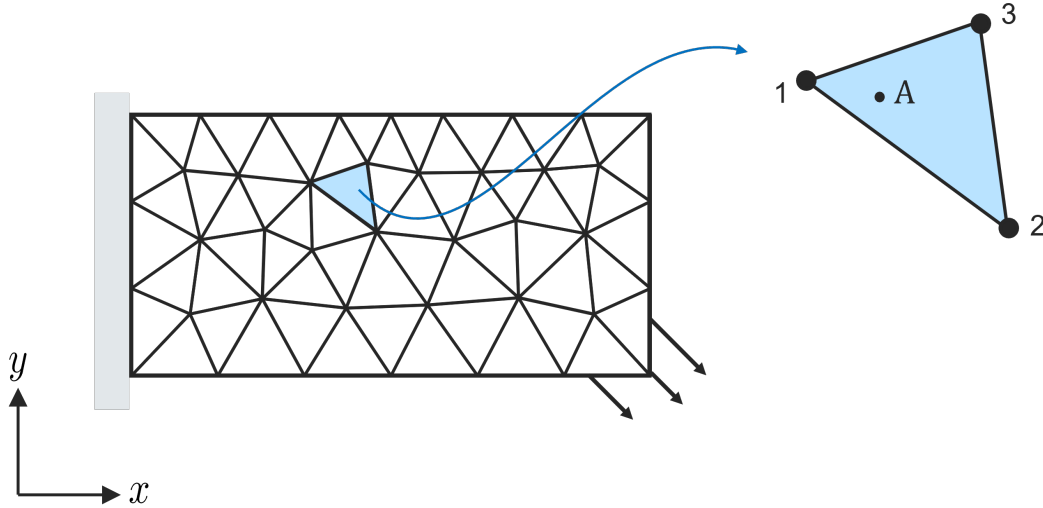

Figure 3: Illustration of component with discretization and the considered element in Problem 3.
Assume a mechanical FE simulation has been performed of a component with thickness $t = 0.015$ m. The material is assumed linear elastic with Young's modulus $E = 210$ GPa and Poisson's ratio $\nu = 0.3$. The simulation used a discretization of linear isoparametric triangular elements as can be seen in Figure 3. In this problem, you will only consider a single element (among those
- a) Consider a point A within the element with local coordinates $[0.2, 0.1]^T$ in the parent domain. (The point is shown in the right part of Figure 3.) For this point, calculate the corresponding global coordinates $\mathbf{x}_A = [x_A, y_A]^T$. (1p)